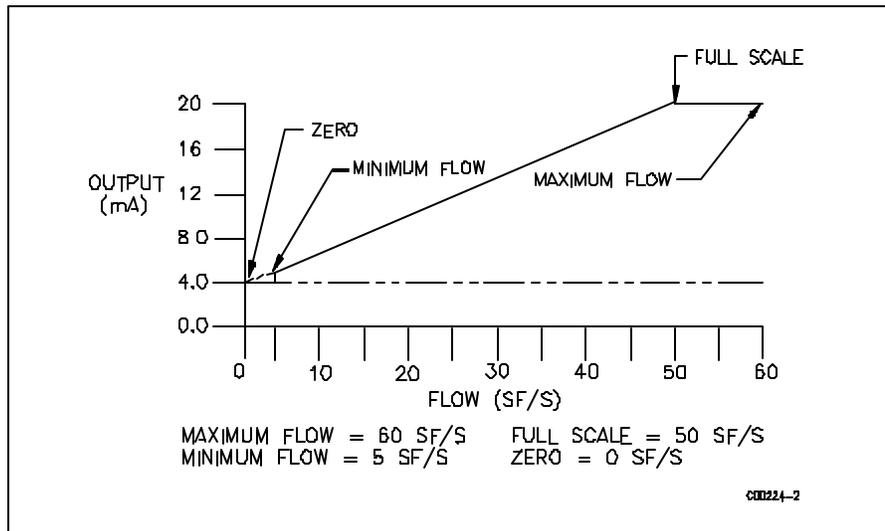

Figure 14 - Signal Output versus Flow Rate
The signal range varies linearly with change in flow rate as shown in Figure 14. Minimum
2. Press 2, the Flow option. The sequence of information will be displayed to the screen as shown in Figure 14. Press Enter twice to proceed. The first line of screen 1 is the window title. Line 2, the Flow Factor is the conversion factor from the internal units of measure (SF/S) to the desired units. Lines 3 and 4 show the flow range and the current flow units. Screen 2 shows the standard density of the flow stream.
3. Press 4, the Area option. Screen 3, shown in Figure 14 will appear. The second line shows the pipe area and units. The third line is the inside diameter of the pipe. (The third line will appear only if the pipe I.D. is entered. If Std Velocity flow units are used the Area option is not available.)